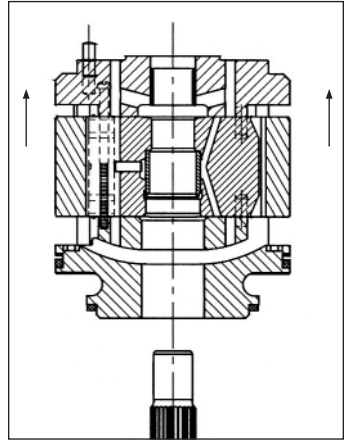

Fig. 33
**WARNING:** If you want to reassemble a new cartridge, go to page 11 (Fig. 33).